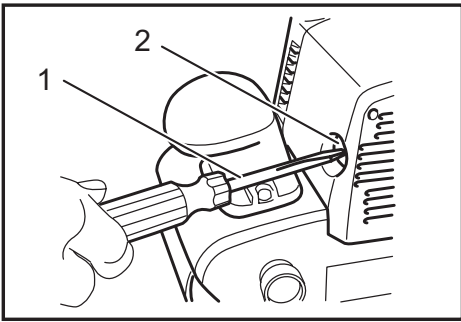

Fig.9
► **Fig.9:** 1. Screwdriver 2. Brush holder cap